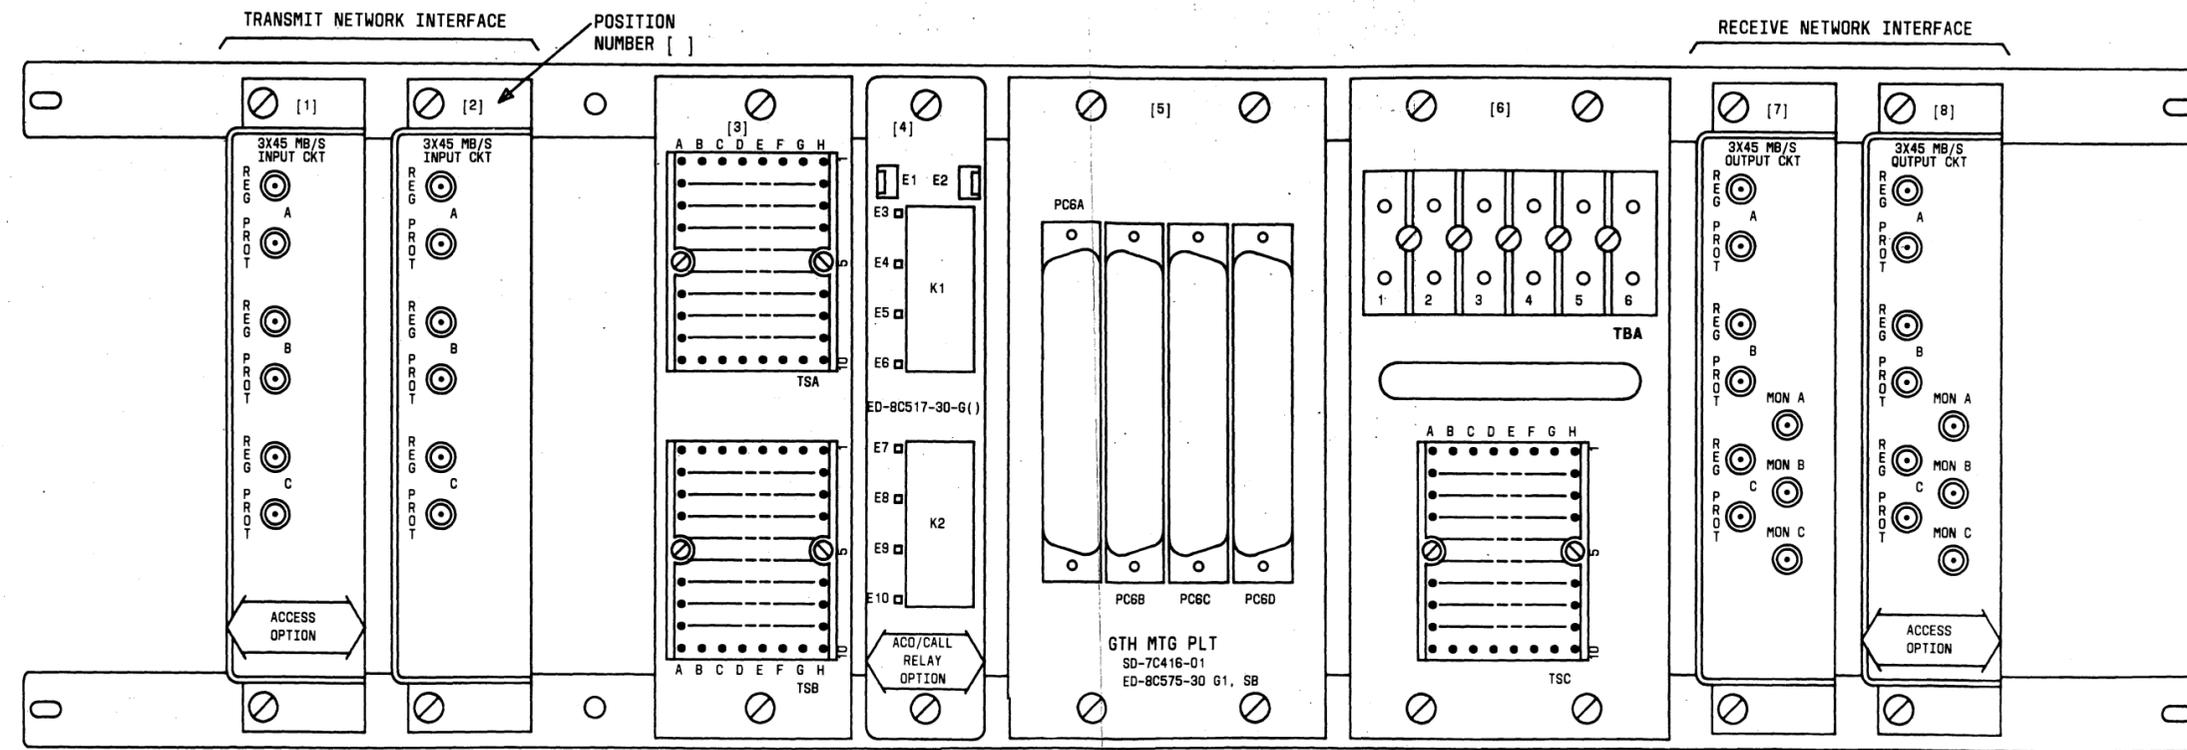

Fig. 4—Installer Interface Panel—Initial Bay
- Figure 4—Installer Interface Panel—Initial Bay